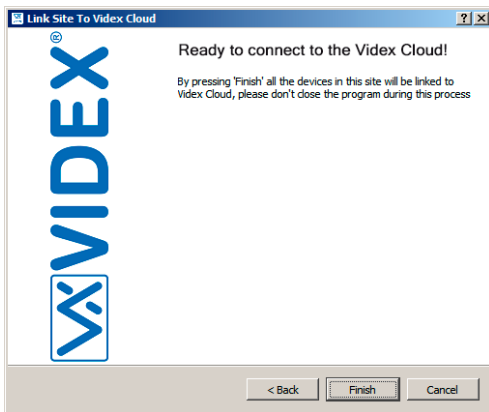

Fig. 40 Ready to connect to Videx Cloud
- The system is ready to connect to Videx Cloud (Fig. 40) click the "finish" button to proceed.